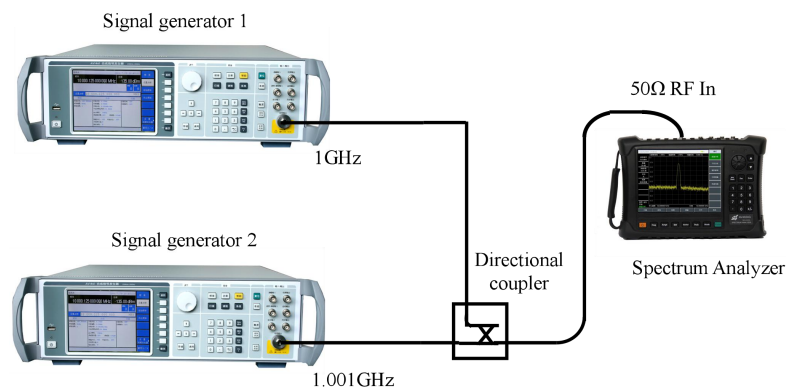

Fig. 4-5 Connection of Third-order IM Distortion Measurement System
- a) Connect the tested instrument with spectrum analyzer as shown in Fig. 4-5.